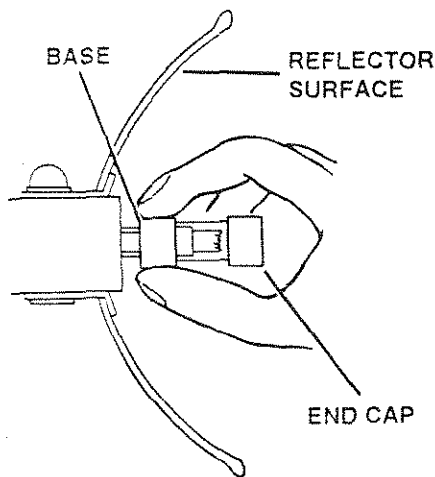

Figure 2-3.
3. Make sure the electrical power to the fixture is off and the bulb is cool. Using caution not to touch the reflector surface, hold the bulb by the base and pull out. See Figure 2-3. Slightly working the bulb back and forth may aid in removal.